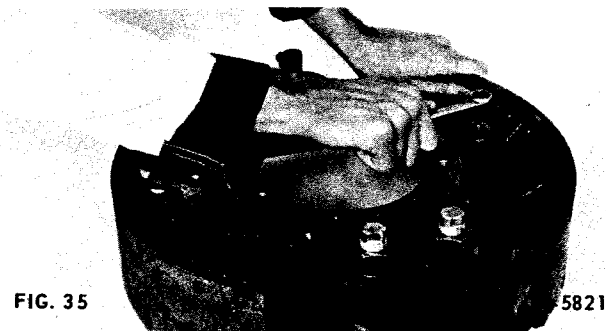

FIG. 35
1. Rotate brake shoe adjusting cam to reduce brake return spring tension to a minimum (Fig. 35).